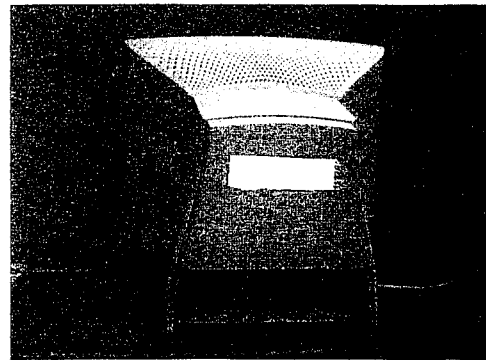
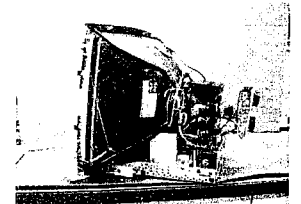

Fig. 2
Fig. 8
- To remove 13 screws for service position as Fig. 6 to Fig. 8.
To get service position as Fig. 1 through Fig. 2 to Fig. 8.